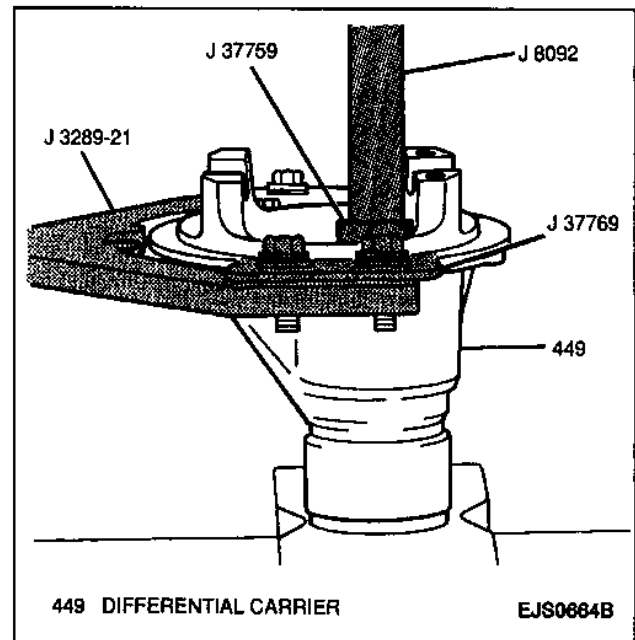

Figure 66—Installing Inner Pinion Bearing Race
9. Inner pinion bearing race using a J 37759 with a J 8092 (Figure 66). Place the differential carrier on a hydraulic press and position the inner pinion bearing race over its bore. Then,